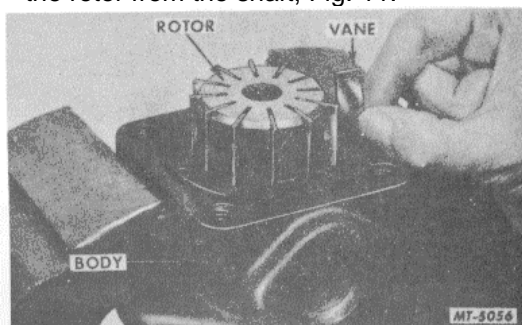

Fig. 11
6. Separate the vanes from the rotor and remove the rotor from the shaft, Fig. 11.